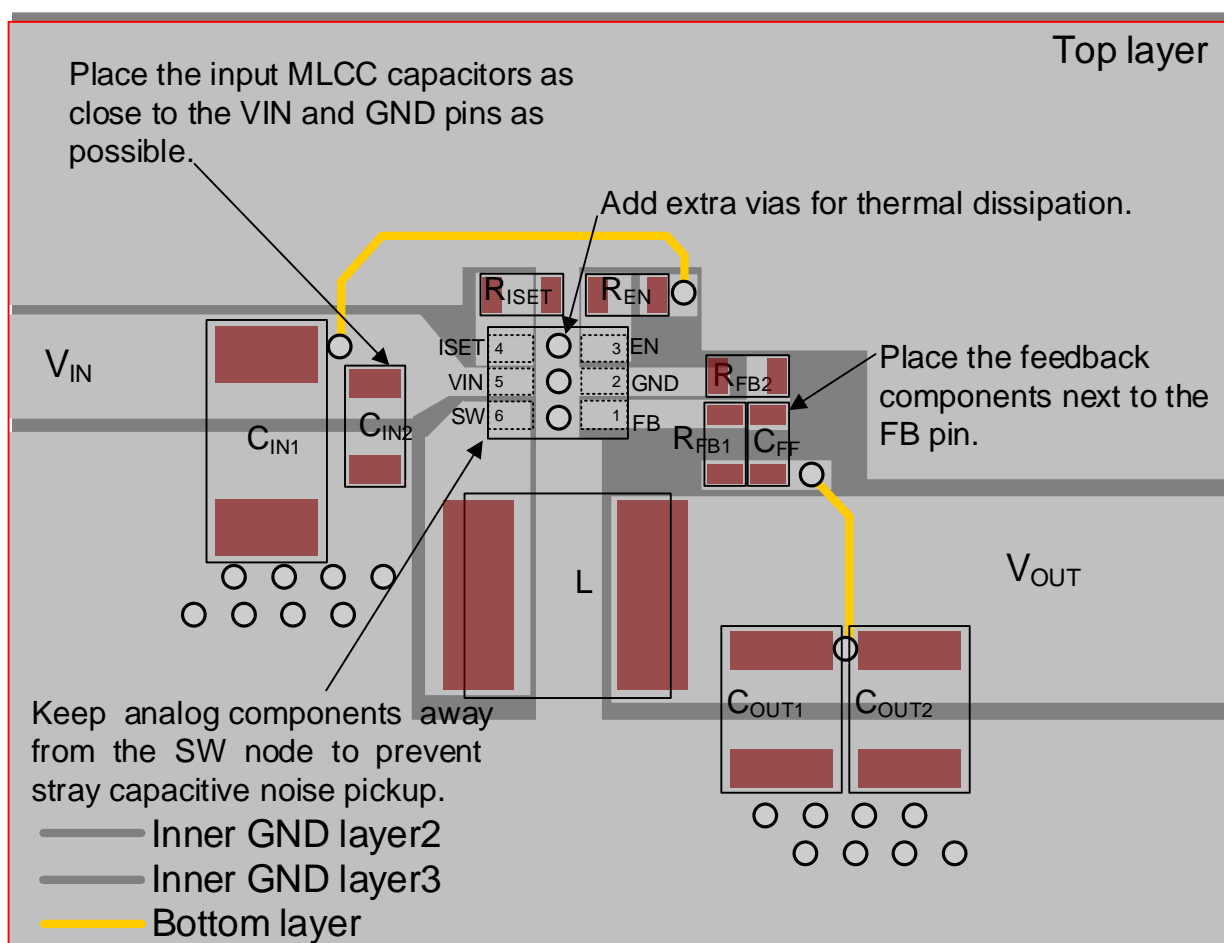

Figure 4. SOT-23-6 PCB Layout Guide
- Connect the feedback network behind the output capacitors. Place the feedback components next to the FB pin. For better thermal performance, design a wide and thick plane for the GND pin or to add a lot of vias to the GND plane. The examples of PCB layout guides are shown in Figure 4 and Figure 5.